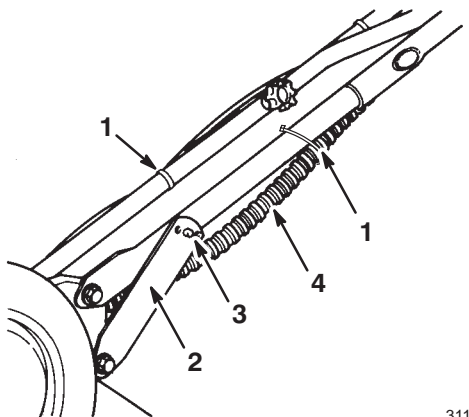

Figure 3
3. Move the handle latches slightly outward to allow the handle to freely pivot backward into the operating position (Fig. 3).
7. Make sure that the control cables are to the rear and inside of the handles and secure the cables to the handle with cable ties (Fig. 3).
5. Move the handle latches inward while snapping the handle stud into the center hole of the handle latch (Fig. 3).